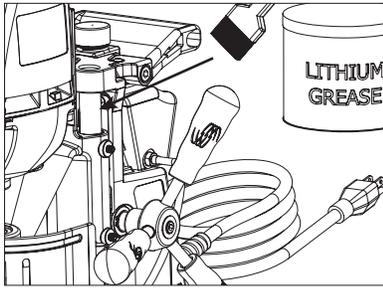

Figure 16
3. Periodically clean & lubricate motor slide rails. **(Figure 16)**